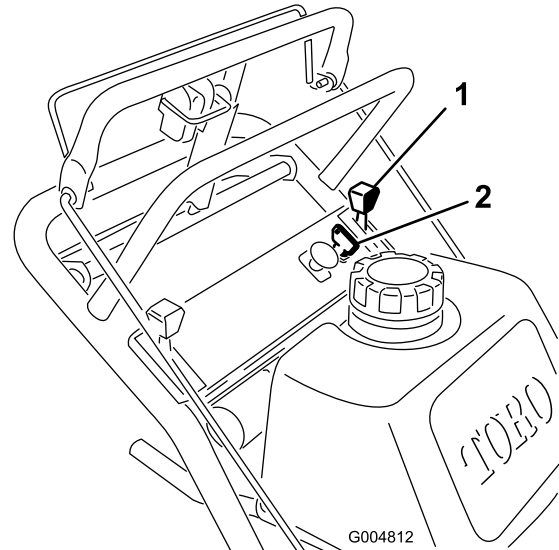

Figure 8
1. Move the throttle lever to the SLOW position (Figure 8).
3. Turn the ignition key to the OFF position (Figure 8).